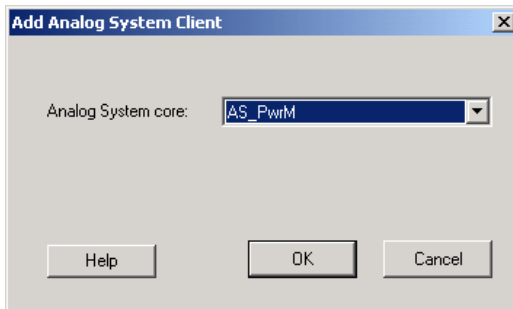

Figure 1-15. Add Analog System Client
After you generate an Analog System, you must create a corresponding Analog System client in the Flash Memory. During Analog System generation, an NCF file is created to record the Analog System configuration and this file must be imported into the Flash Memory System generation tool (as shown in Figure 1-15 on page 21). For detailed instructions on creating a Flash Memory System, refer to the SmartGen Online Help.
3. Select **Analog System** from the Available Client Types list, then click **Add to System**. The Add Analog System Client window appears, as shown in Figure 1-15.